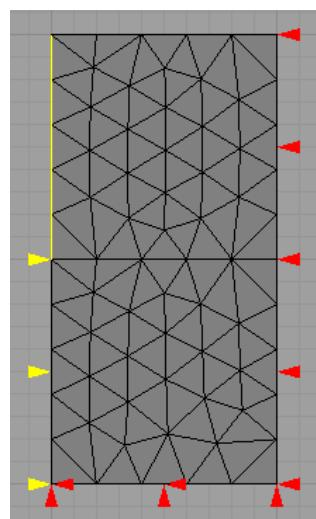

Figure 33. Assigning a fixity.
- i. The selected curve's colour changes to yellow (see Figure 33).
- k. If you select the assigned fixity, its color changes to yellow (see Figure 33) to indicate its selection.